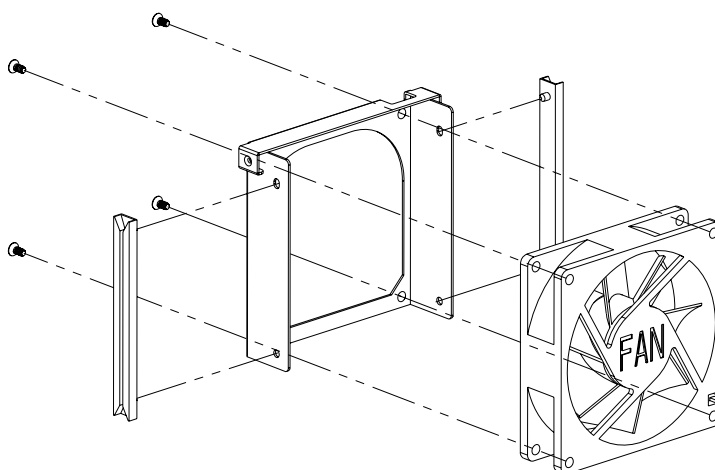

Figure 3.4 Replacing the cooling fan from fan bracket
4. Loose four screws on the fan bracket and replace it with a new fan (Figure 3.4).